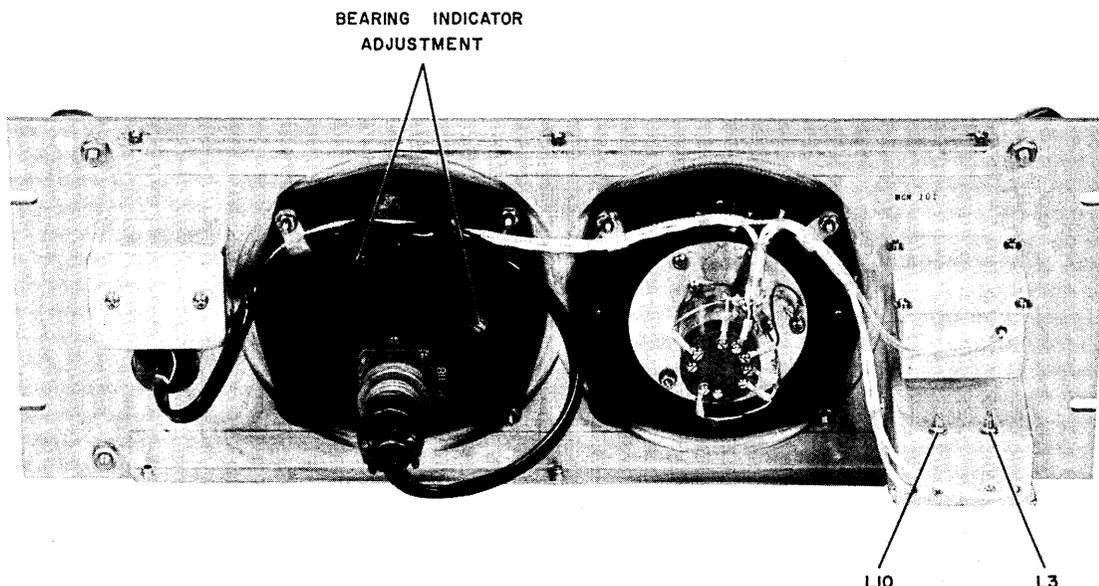

Figure 5-3. 477U-2 ADF Antenna Simulator Adjustments
If variable inductors L3 and L10, shown in figure 5-3, are not both set to the same prescribed value, the stator windings of resolver B1 will each be looking into a different impedance and a sizable error in the simulated loop antenna output to the 51Y-4 will result. The following procedure concerns the alignment of these inductors.
j. Adjust the tuning slug of L10 (see figure 5-3) until a null is indicated by the 477V-2 test meter.